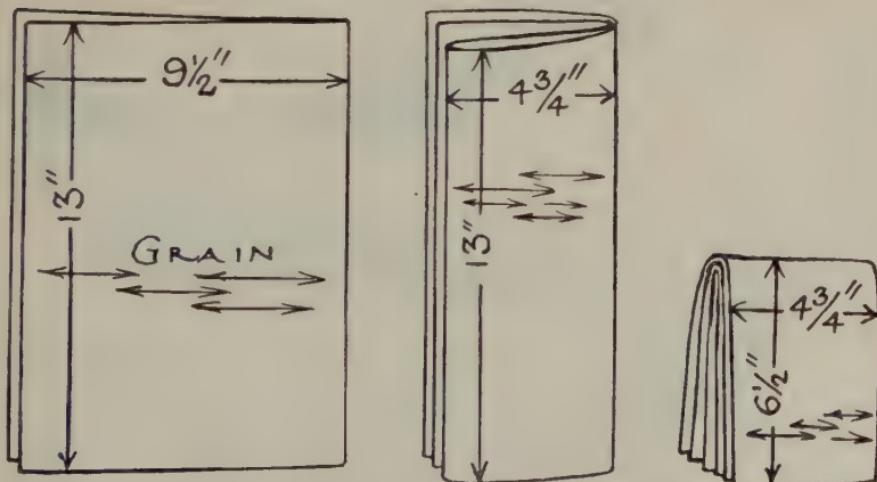

FIG. 226—DIAGRAM SHOWING METHOD OF FOLDING 13" X 19"
3. Fold each $13'' \times 19''$ sheet, in a new manner (see Fig. 226) and obtain a 16 page oblong section, which when folded is $6\frac{1}{4}''$ long and $4\frac{3}{4}''$ wide.